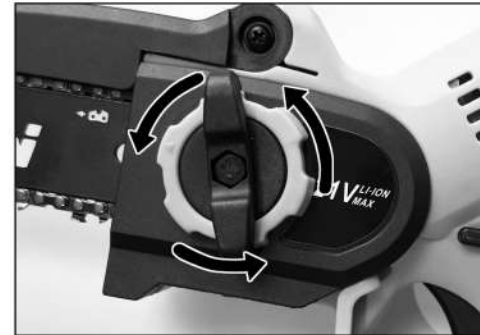

Fig.6
- e. Turn the Tight Knob (4) to tighten the Guide Plate (2) enough that it stays in place. While holding the plate still, place the Side Cover (3) back onto the saw. Make sure the tab properly lines up with the slot on the body of the saw. Lock the cover with the Tight Knob (5) and Lock Knob (4) by turning it clockwise until it engages. (Fig.6)